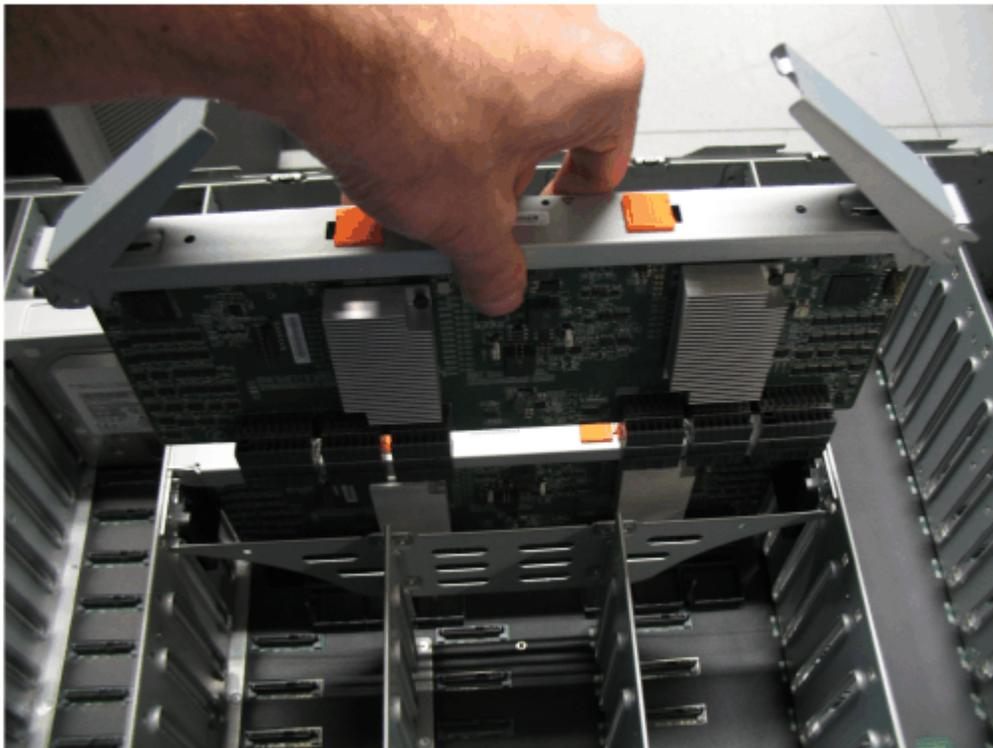

Figure 89. Replace the secondary expander module
4. Align the edges of the secondary expander module carefully in the guide slot in the enclosure, as shown in Figure 89 on page 79.